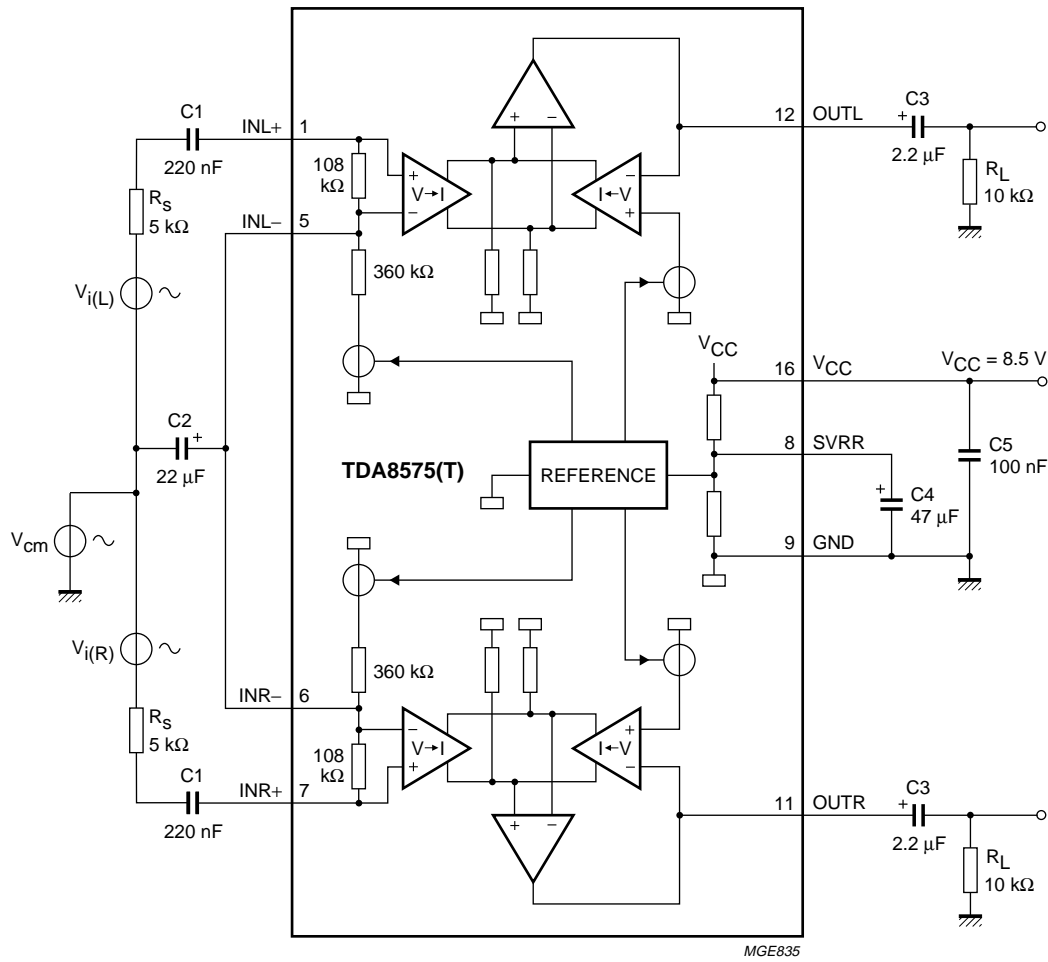

Fig.9 Application circuit TDA8575(T).
**QUALITY SPECIFICATION**Quality according to *UZW-BO/FQ-0601*, if this type is used as an audio amplifier.**DC CHARACTERISTICS** $V_{CC} = 8.5\text{ V}$ ;  $T_{amb} = 25\text{ °C}$ ;  $R_L = 10\text{ k}\Omega$ ; in accordance with application circuit (see Fig.9).
$V_{CC} = 8.5 \text{ V}$ ;  $f = 1 \text{ kHz}$ ;  $R_S = 0 \text{ k}\Omega$ ;  $R_L = 10 \text{ k}\Omega$ ;  $T_{amb} = 25 \text{ }^\circ\text{C}$ ; in accordance with application circuit (see Fig.9).
4. The common mode rejection ratio is measured at the output with a voltage source  $V_{cm(rms)} = 1 \text{ V}$  and both  $V_{i(L)}$  and  $V_{i(R)}$  short-circuited according to Fig.9. The common mode rejection is dependent on the capacitor C2 connected to the IN- input. The common mode rejection for low frequencies (<1 kHz) can be increased by using a larger capacitance for C2.